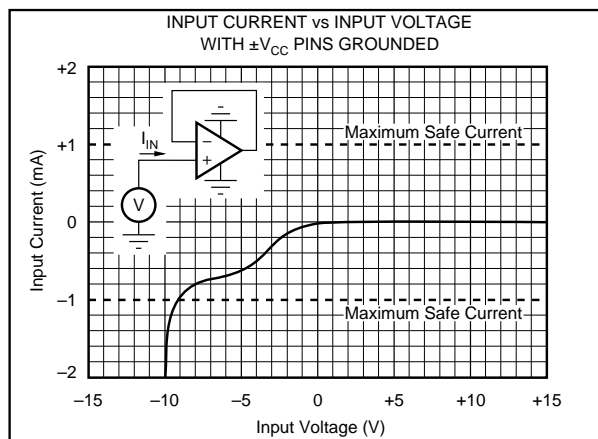

FIGURE 2. Input Current vs Input Voltage with $\pm V_{CC}$ Pins Grounded.
NOTES: (1) Packages must be derated based on $\theta_{JC} = 30^\circ\text{C/W}$ or $\theta_{JA} = 120^\circ\text{C/W}$. (2) For supply voltages less than $\pm 18\text{VDC}$ the absolute maximum input voltage is equal to: $18\text{V} > V_{IN} > -V_{CC} - 8\text{V}$. See Figure 2. (3) Short circuit may be to power supply common only. Rating applies to +25°C ambient. Observe dissipation limit and T_J .
Unlike BIFET amplifiers, the **Difet** OPA404 requires input current limiting resistors only if its input voltage is greater than 8 volts more negative than $-V_{CC}$. A 10kΩ series resistor will limit the input current to a safe value with up to $\pm 15V$ input levels even if both supply voltages are lost. (See Figure 2 and Absolute Maximum Ratings).